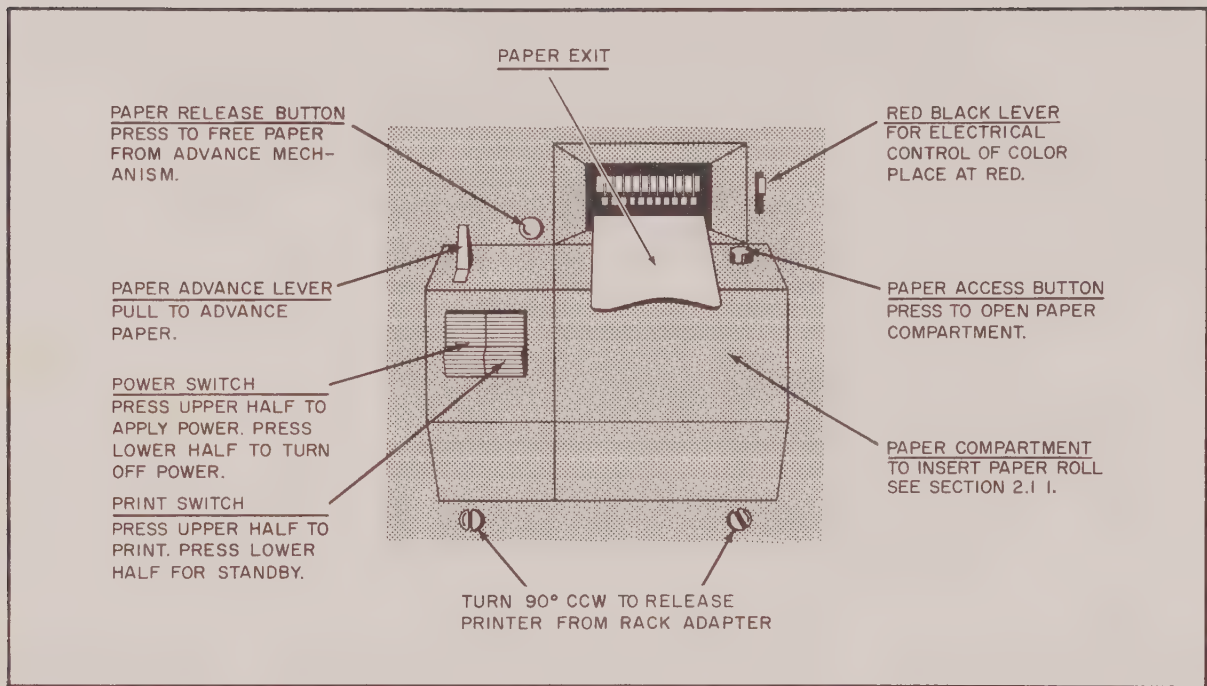

FIG. 2-2. Front-panel controls and connectors.
With the exception of the code weighting switch on the ten-line code module described in paragraph 3.5.3, the operating controls are on the front panel. Their positions and functions are shown in Figure 2.2.
- 1) Press paper access button (see Figure 2-2).
- 1) Set POWER switch to OFF (see Figure 2-2).